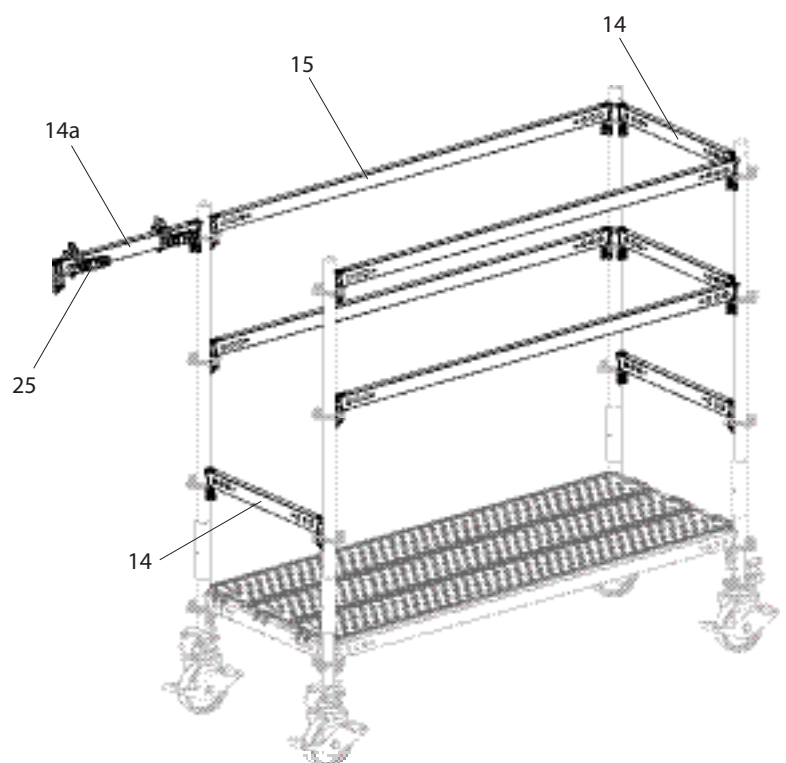

Fig. A3.04
2. Connect Top Standards UVH-2 150 to Horizontal Ledgers UH-2 200 (15) and UH-2 75 (14). Secure the wedges.
3. Pre-mount 2x Ladder Connectors UAM-S (25) on Horizontal Ledger UH-2 75 (14a) to reflect the distance between the ladder rails.
4. Fit the pre-assembled Horizontal Ledger UH-2 75 (14a). (Fig. A3.04)